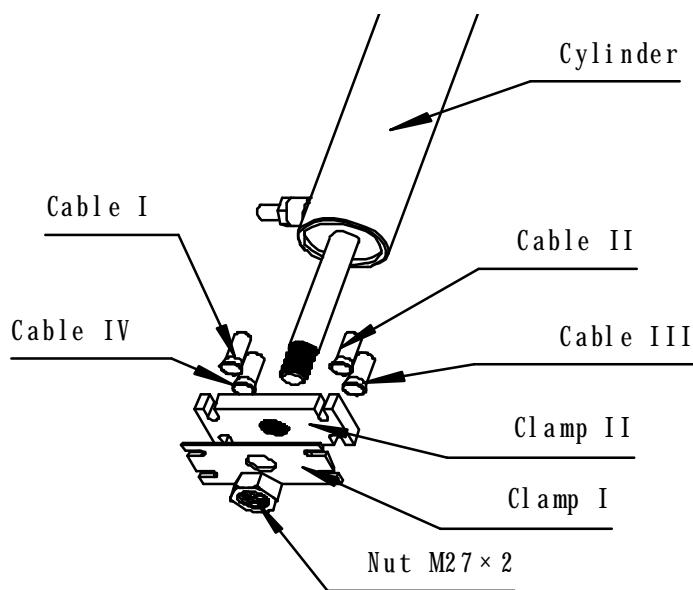

Fig.11
- I Install 4 cables as shown in Fig. 11,12